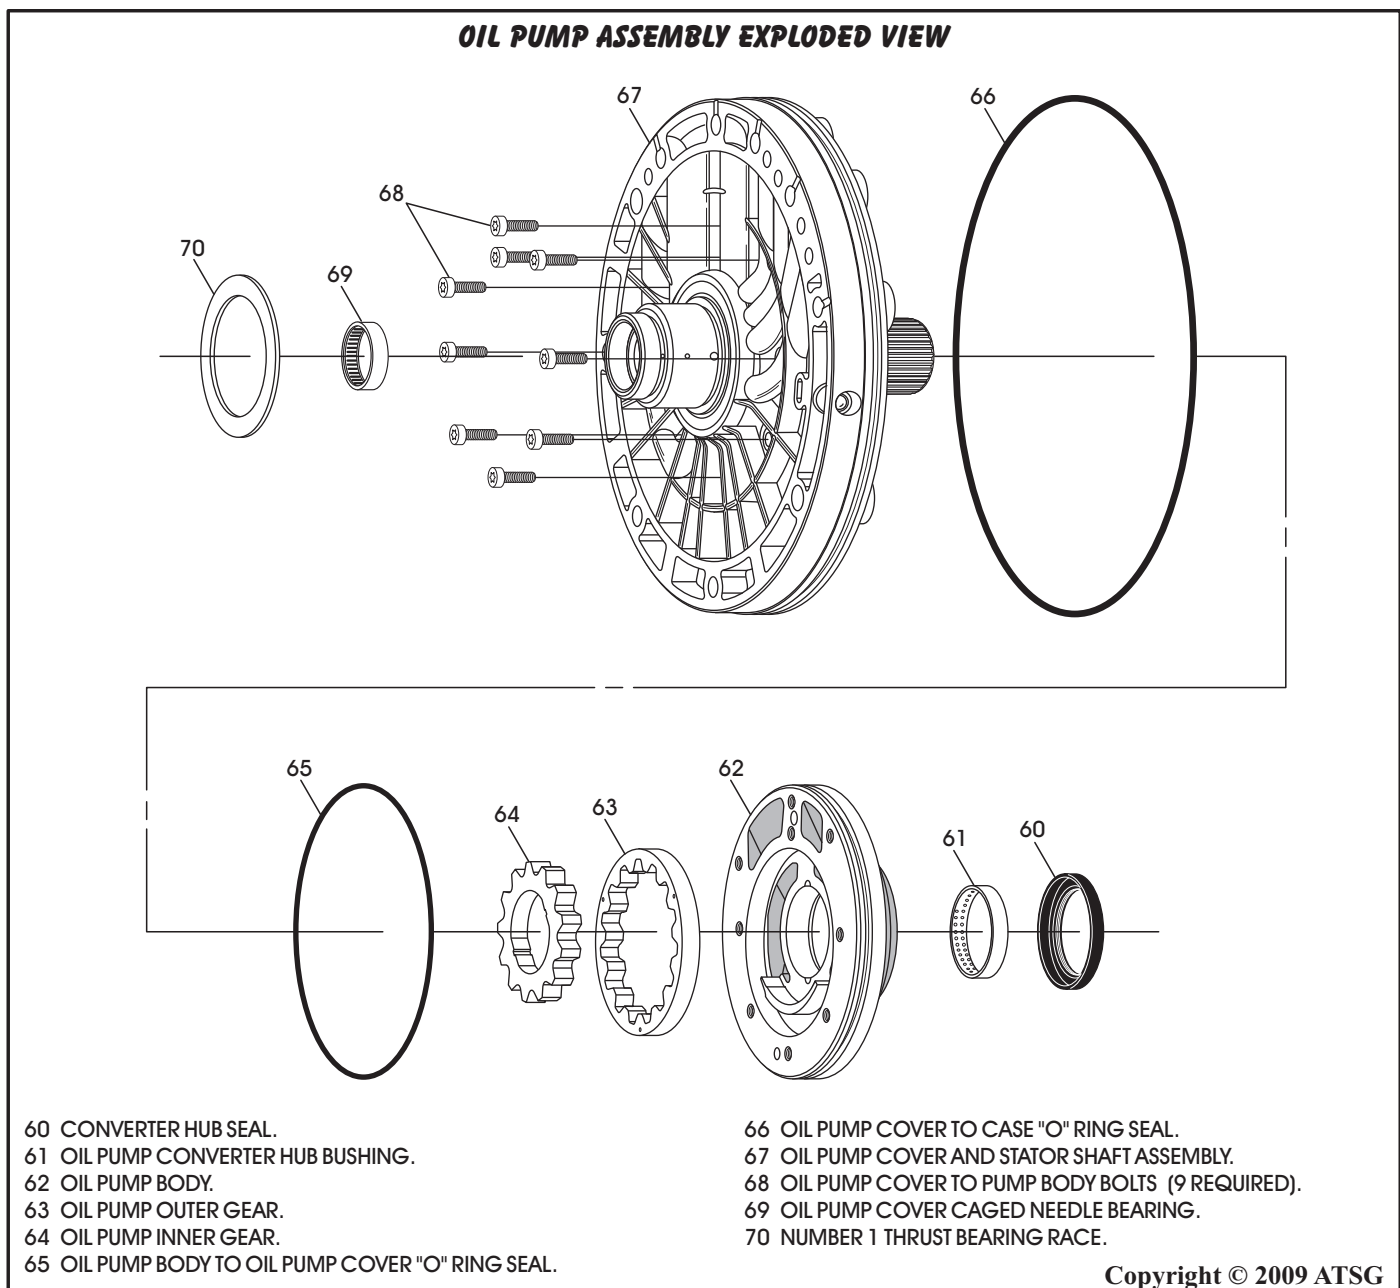

Figure 84
1. Disassemble the oil pump assembly using Figure 84 as a guide.
2. Remove and discard both "O" ring seals and the converter hub seal (See Figure 84).